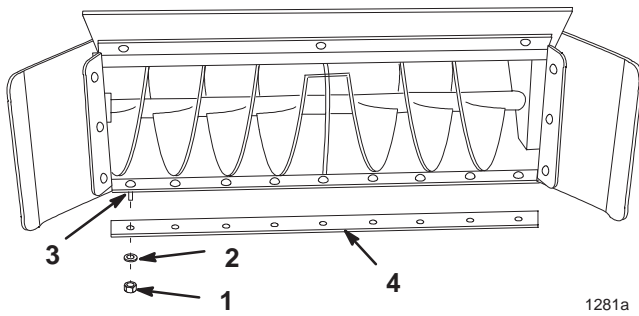

Figure 33
- Remove the nuts, washers, carriage bolts, and scraper blade (fig. 33).
- Reverse the scraper blade and install it with previously removed hardware (fig. 33).